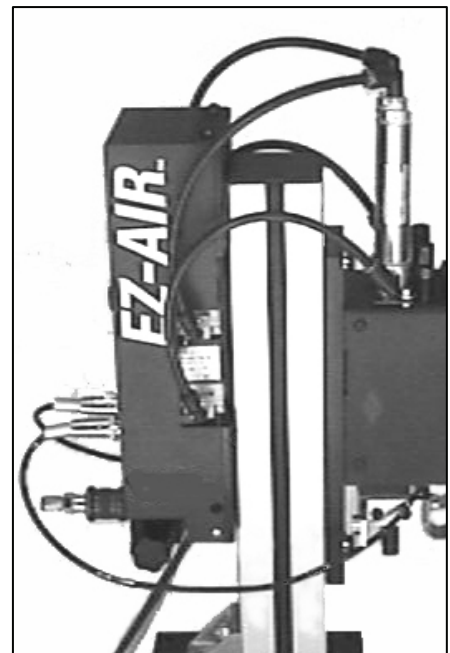

Figure 2-3. Installation of New Elbow Fittings and Pneumatic Tubes
- 3 Using the included push-in fittings, connect the pneumatic tubing. **NOTE:** Be sure the tubing is pushed in all of the way to prevent leakage, leading to imperfect welds. As shown in figure 2-3, the connections are intuitive. That is, the upper valve goes to the cylinder's upper port; the lower valve to the lower port. On each side of the EZ-Air are two fittings; the fittings on each side go to the respective cylinder of that side, with the top fitting of the EZ-Air going to the top fitting of the cylinder, and the bottom fitting of the EZ-Air going to the bottom fitting of the cylinder.